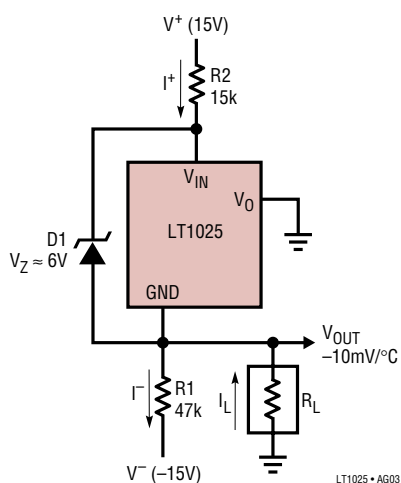

Figure 3
The LT1025 can be made to “stand on its head” to achieve a minus 10mV/°C output point. This is done as shown in Figure 3. The normal output (VO) is grounded and feedback is established between the ground pin and the positive supply pin by feeding both of them with currents while coupling them with a 6V zener. The ground pin will